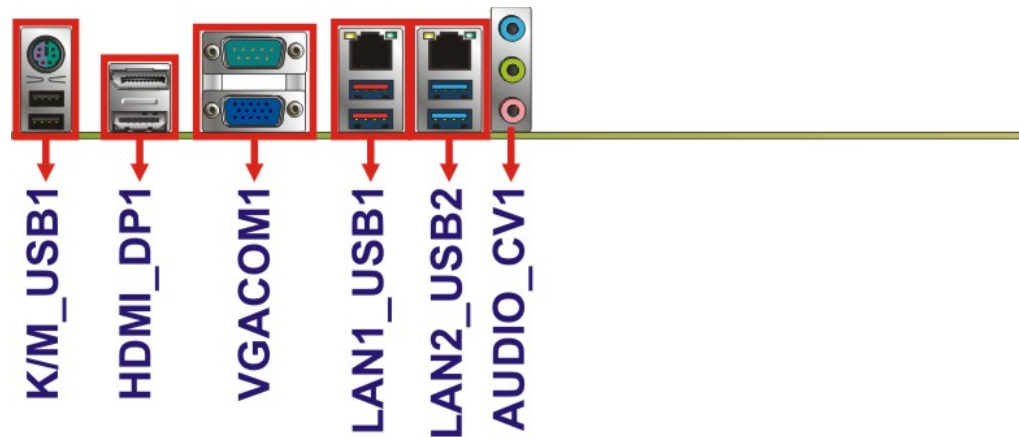

Figure 3-33: External Peripheral Interface Connector
CN Location: See **Figure 3-33**
- CN Location: See Figure 3-33